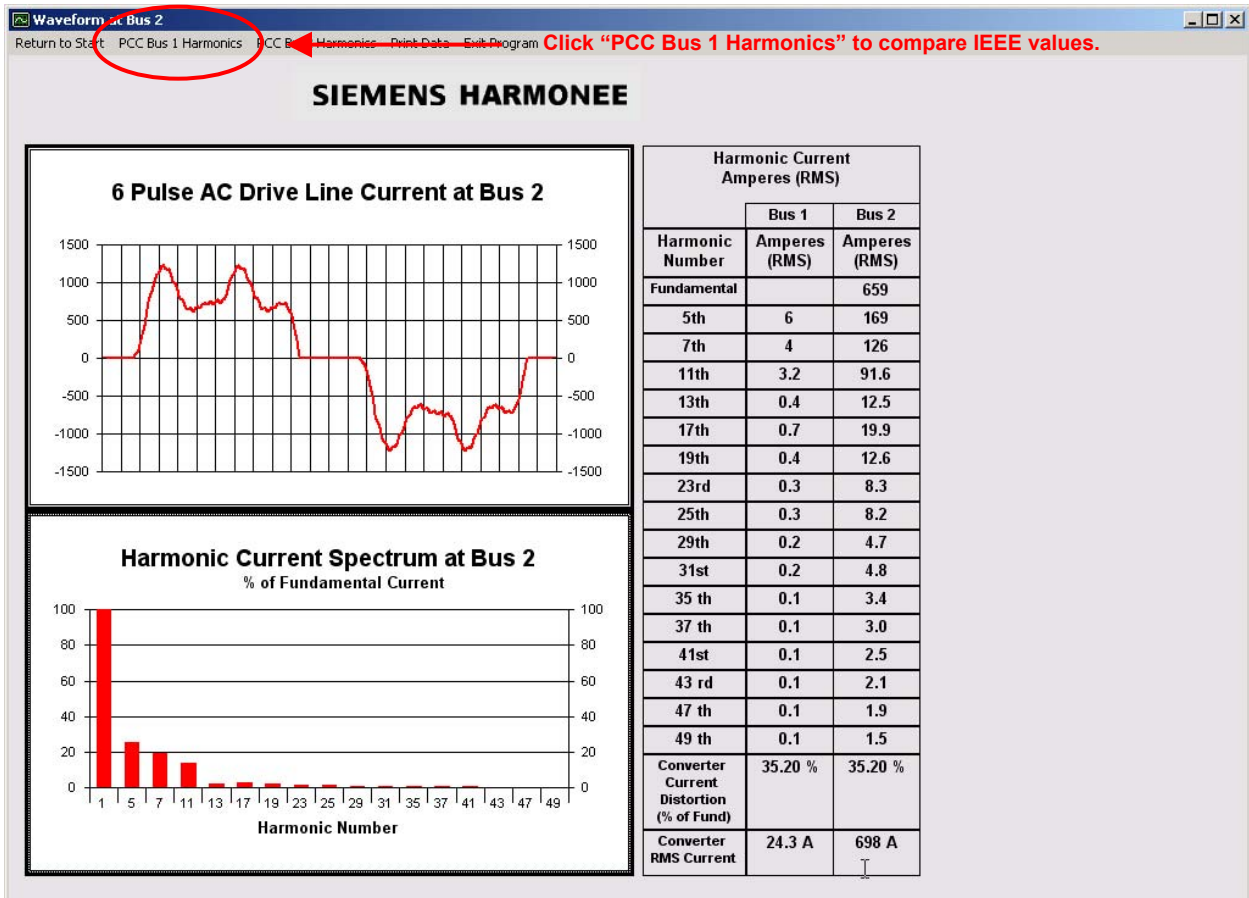
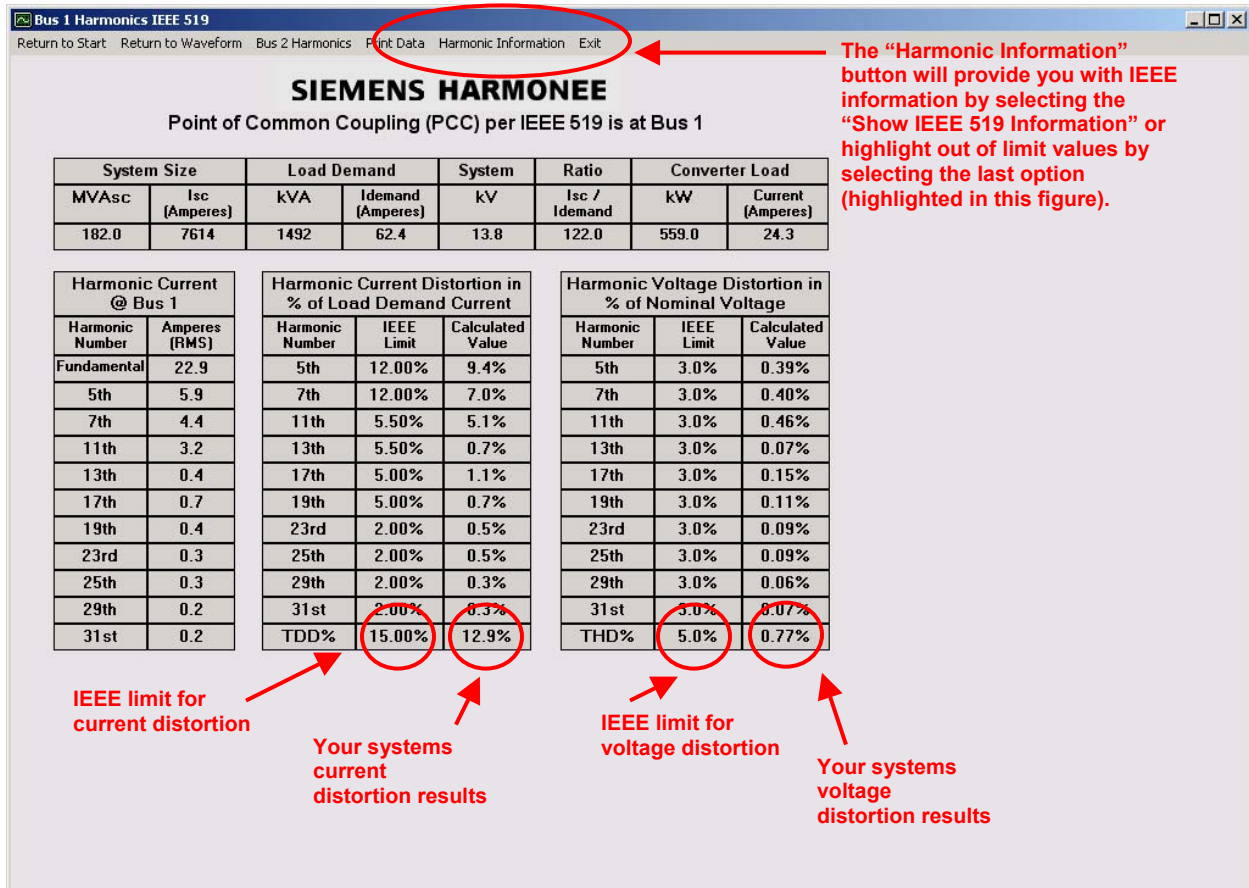
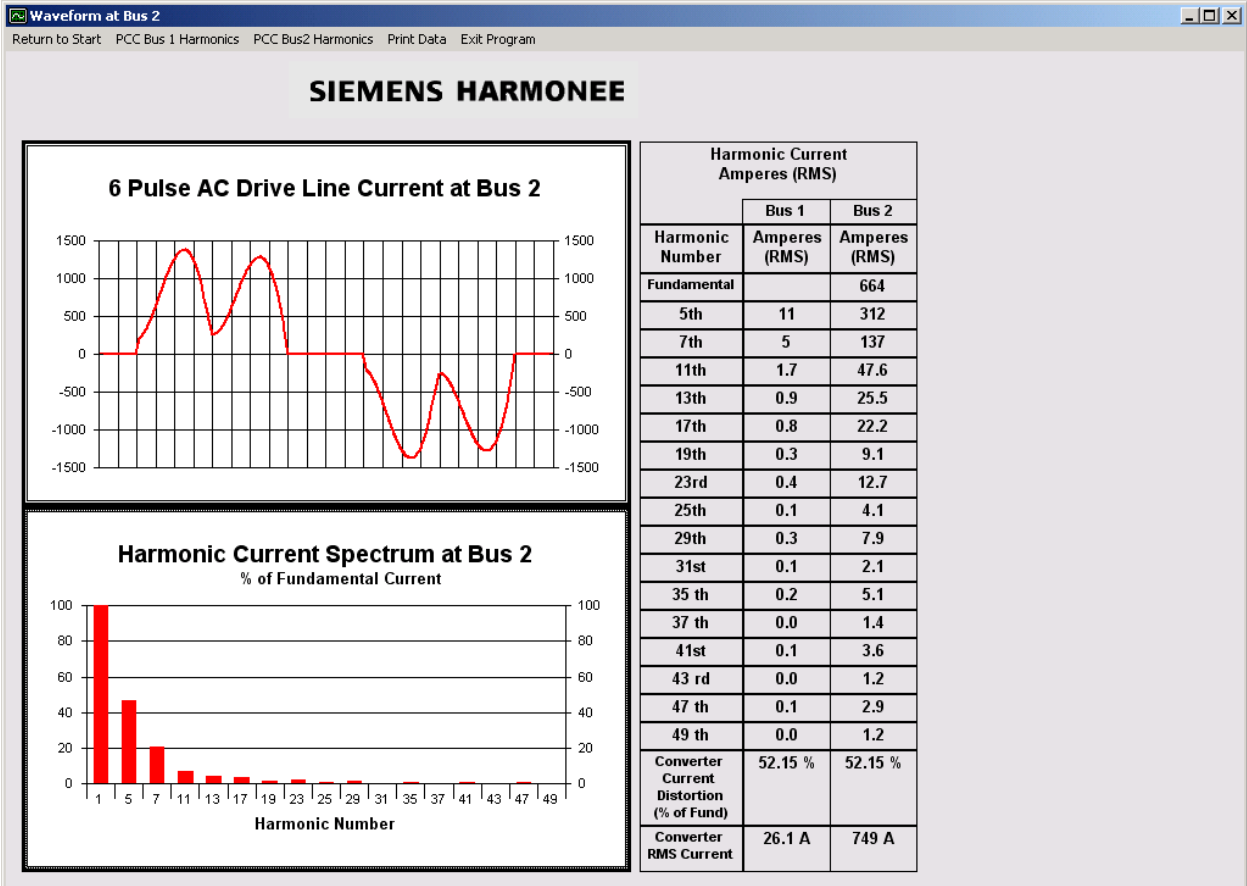

Figure 11 -- Calculate Harmonics Results
Figure 12 -- SBT Drive Results from Clicking “PCC Bus 1 Harmonics”
Figure 14 – Traditional Drive Results
12. The **Calculate Harmonics** button will bring you to a screen that looks like Figure 11.
- a. Click the **PCC Bus 1 Harmonics** button to compare SBT IEEE values. (See Figure 11). Figure 12 below shows what the results will look like.
- At this point, you may select the **Harmonic Information** button for IEEE information, to print IEEE information or to highlight any out of limit values in the calculation. (See above Figure 12) Notice that because the above result shows that our system’s current distortion result is 12.9%, this system configuration meets IEEE guidelines.
18. Then click **Calculate Harmonics** to view results like below (see Figure 14) for a standard drive.
This example shows the advantage of the SED2 VFD as compared to standard six-pulse drives. In the example, the SED2 waveform (see Figure 11) more closely resembles the ideal square waveform than that of a standard 6-pulse drive as shown in Figure 14. The SED2 waveform does not have a large valley generated by a traditional drive. The SED2 waveform is then shown numerically, as represented by the harmonic orders, to comply with IEEE levels. The same system set up, operating with conventional six-pulse drives, shows that the installation would exceed IEEE limits. The results are clear – the SED2 has superior harmonic performance vs. comparable products.